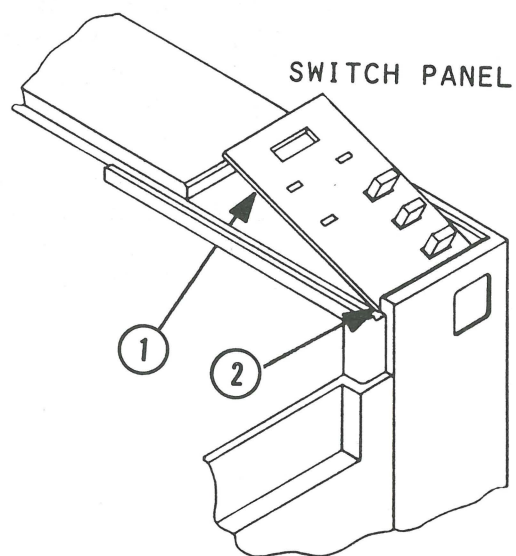
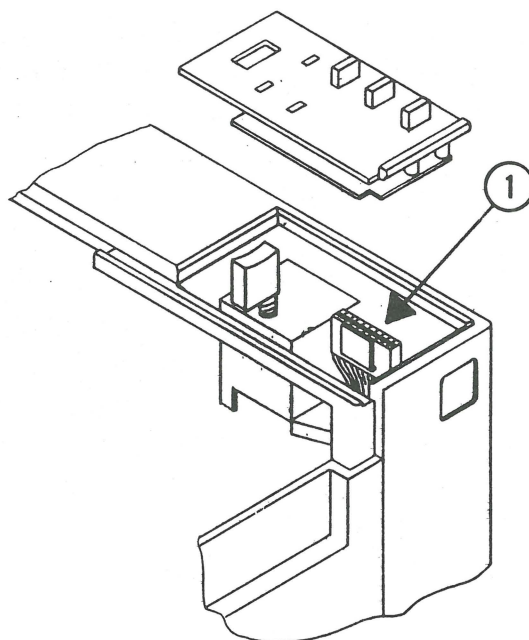

FIGURE 1
FIGURE 2
3. Push up and forward on the underside of the switch panel near the top (Figure 1, #1) until it pops free. Unplug the switch panel from the connector underneath (Figure 2, #1).
1. Plug the switch panel into its connector (Figure 2, #1).
2. Hook the bottom of the switch panel under the top cover (Figure 1, #2), and press down on the switch panel until it snaps into place.